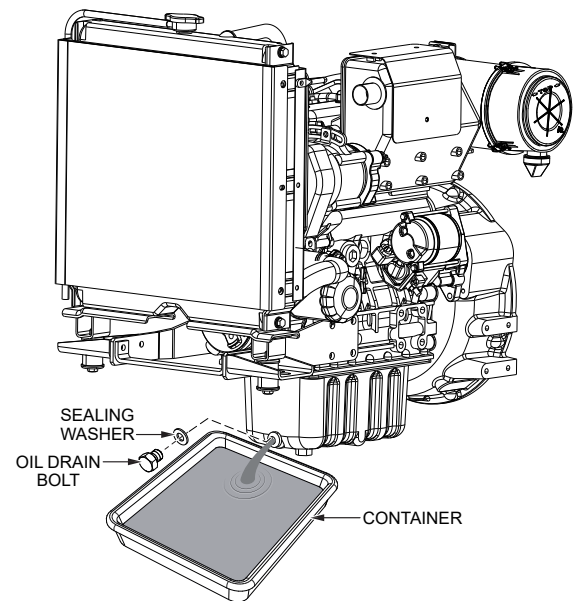

Figure 19. Draining The Engine Oil
3. Remove the **oil drain plug** (Figure 19) and allow the oil to drain into a suitable container.